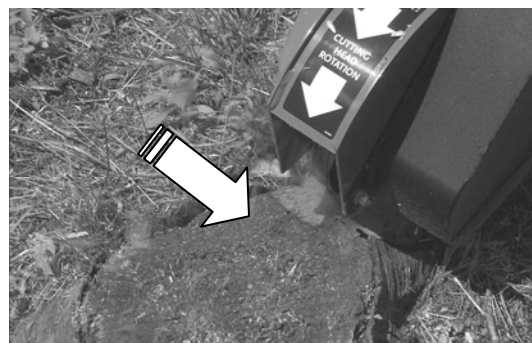

Figure 14
6. Lower the Cutter Head approximately 1/2" to 1" into the front-top corner of the stump and slowly swing the Cutter Head to the left into the stump by pushing on the right hand handlebar (**Figure 14**). When you are finished with the first pass through the Stump, swing the Cutter Head back to the starting position on the right side. Lower the Cutter Head approximately 1/2" to 1" and slowly swing the Cutter Head to the left through the Stump. Continue this process until you have removed the front portion of the stump to ground level.